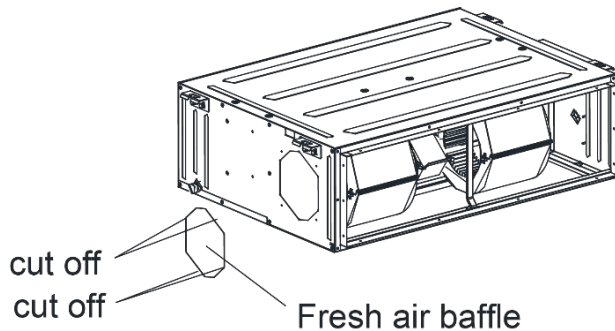

Fig 4.4.8
- (1) If a fresh-air duct will be connected, remove the fresh-air knockout/baffle as shown in Fig. 4.4.8.